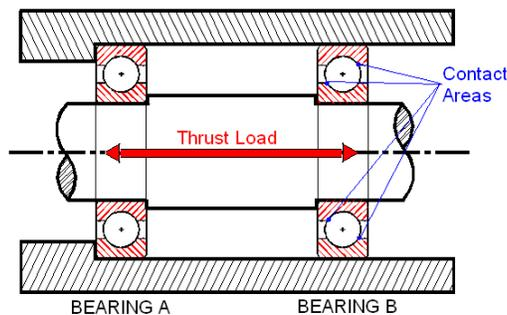

**Figure 2**
**Scenario 1:** The fitting practice is excessive and the system has a thin shaft. The machine goes into operation and heat is generated. The shaft begins to expand, bearing B cannot float, the shaft deflects resulting in the system failing, **figure 2**.